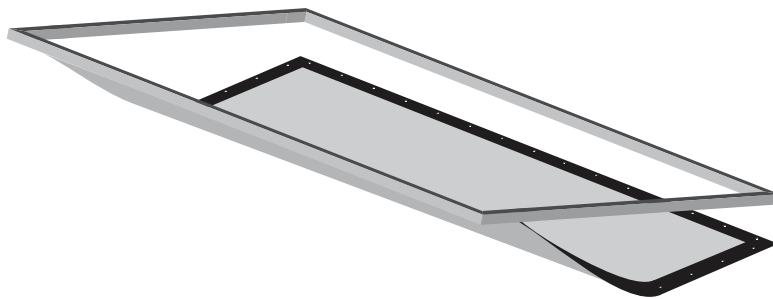

Figure 8: Attaching Remaining Snaps
3. Lift the frame to a vertical position to finish attaching the sides and bottom rows of the snaps. Refer to Figure 8.